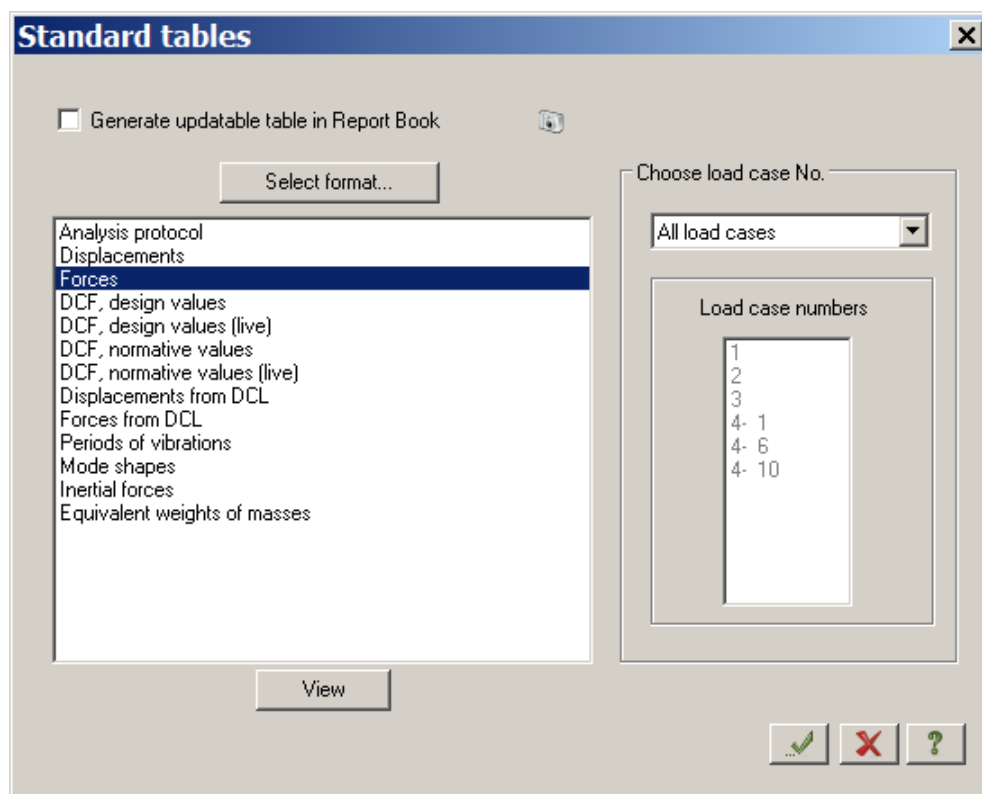

Figure 4.34 **Standard tables** dialog box
- ⇒ In the **Standard tables** dialog box (see Fig.4.34), select **Forces** in the list.